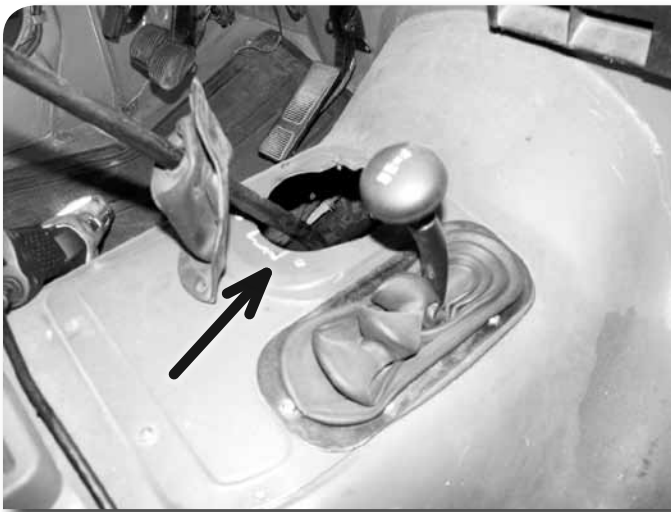

Figure 11
38. Check shift lever movement, minor trimming of floor pan around shift boot required – Fig 11.